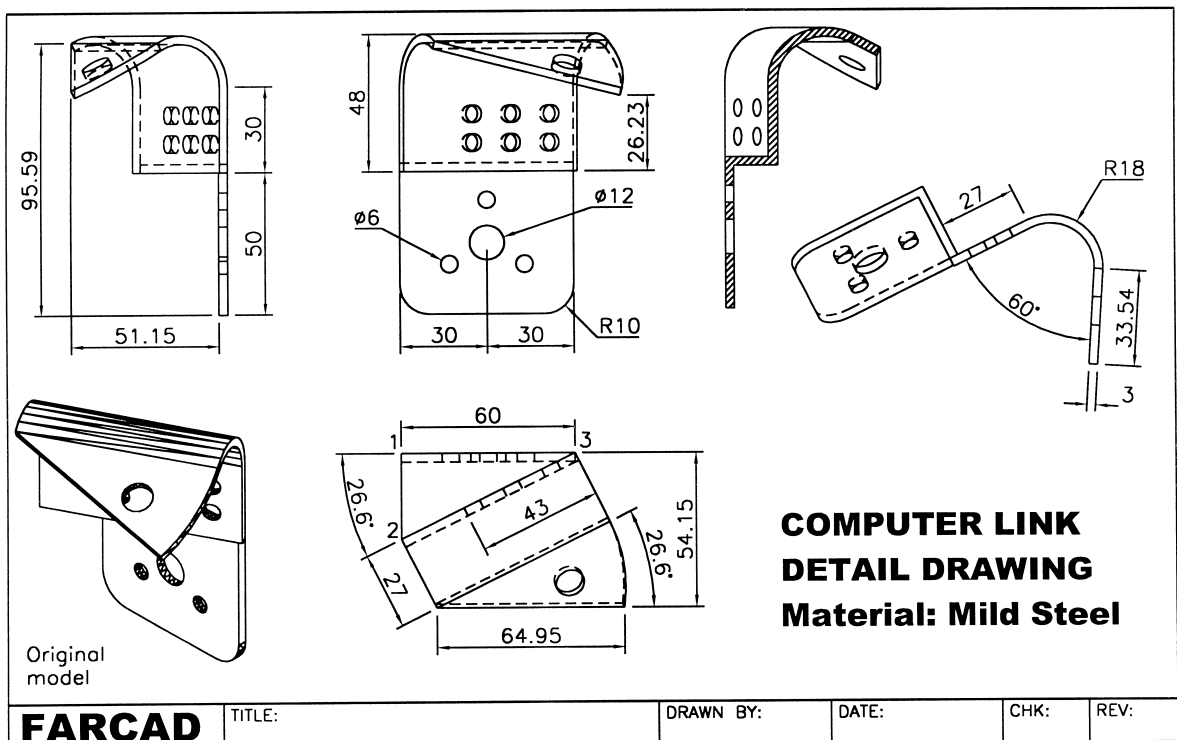

Figure 44.2 Computer link detail drawing using the setup commands.
- b) first point of inclined plane and with the first viewport active, pick ENDpoint of pt1 (see Fig. 44.2)
- b) Using the viewport specific -DIM layers, add the dimensions displayed in Fig. 44.2. The UCS in the new created viewports should be 'set' to allow this as the UCSVP system variable always defaults to 1 when a new viewport is created. Note that a paper space zoom of the viewport being dimensioned will assist with the dimensions.